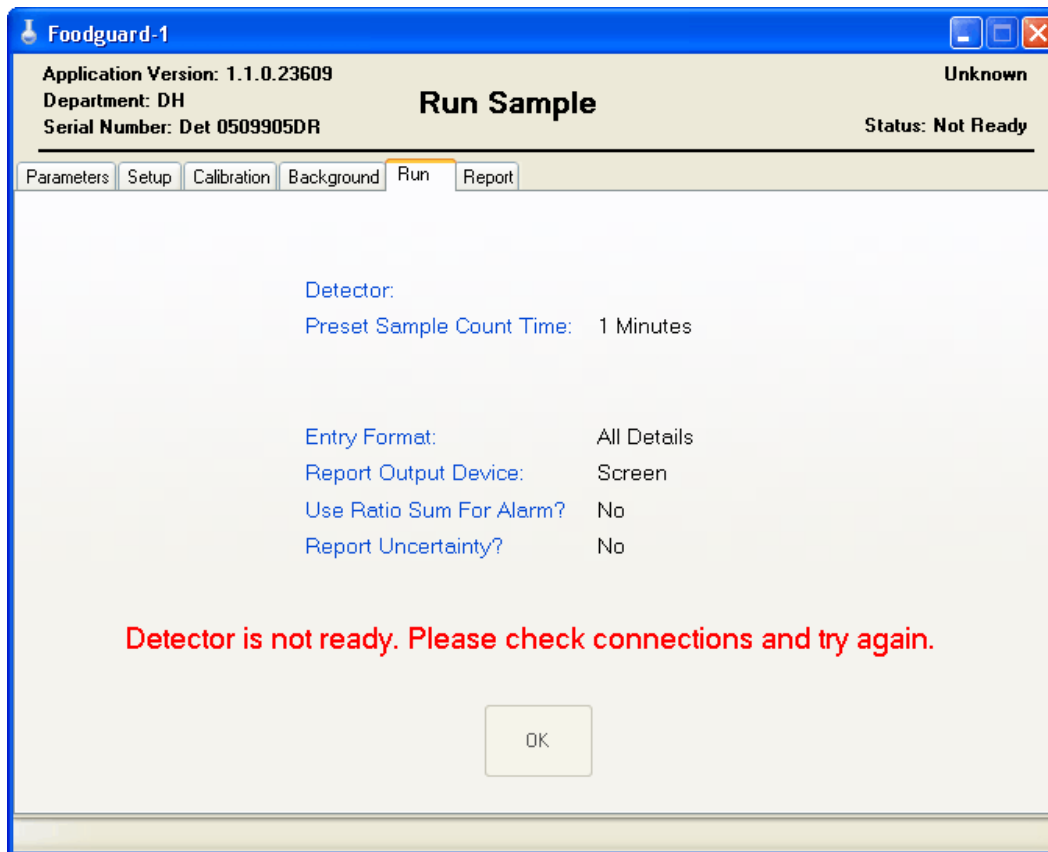

Figure 42. No Valid Detector Selected (go to Setup tab).
- If the digiBASE has not been pre-selected in the FoodGuard-1 program, the program will open on the Run tab, which will display the “detector not ready” message shown in Fig. 42.¹⁴ Referring to Section 3.3, click on the Setup tab, enter the factory-set password (Section 3.1.1), and select the digiBASE from the **Detector** droplist. Click on any other tab to start the 30-second high-voltage startup routine.’